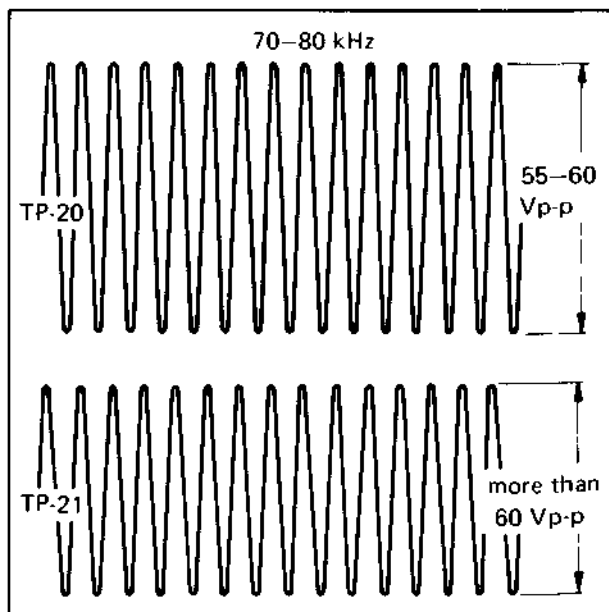

Fig. 5-37 Bias level
3. Adjust R144 (BIAS LEVEL) so that the level of TP-20 is 60 Vp-p and also, check the level of TP-21 (ERASE HEAD IN) is more than 60 Vp-p as shown in Fig. 5-37.